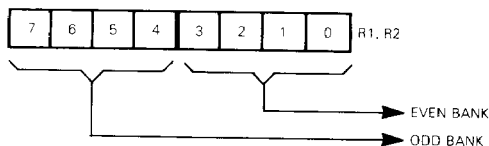

FIGURE 2.4. - COLOR REGISTER
2.4.1. Colors: registers R1 and R2 (See figure 2.4.)